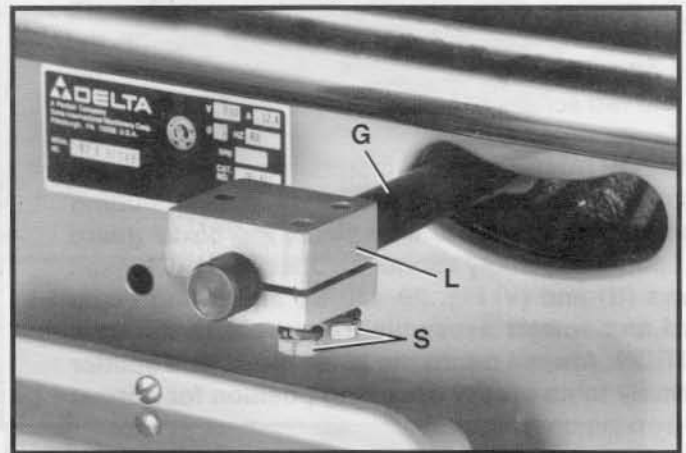

Fig. 23
7. Assemble lower bracket (L) Fig. 23, to rod (G) and snug up with 2 one inch-long hex head screws (S) and lockwashers, from underneath bracket (L).